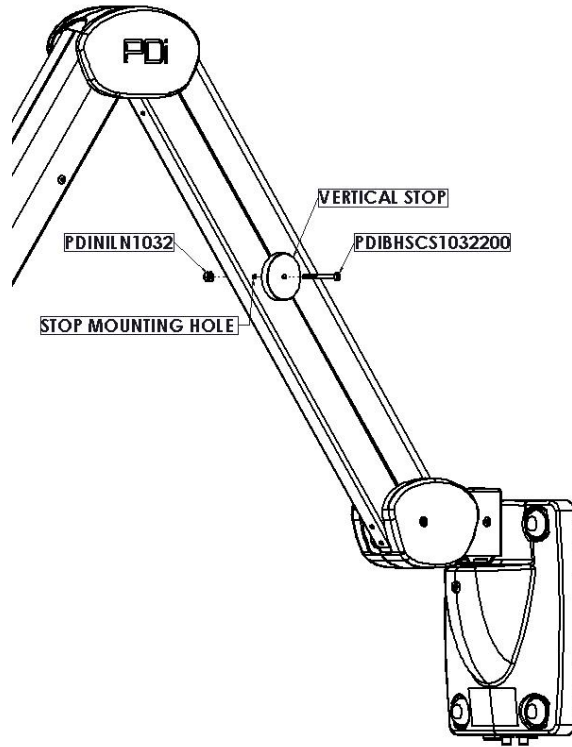

Figure 5: Vertical Stop Secured with **PDIBHSCS1032200** & **PDINILN1032**
- 4b. If screws are not present in the Stop Mounting Hole, attach the desired Vertical Stop with the 2.00" screw and Nylon Lock Nut into the Stop Mounting Hole and tighten to 30 IN-LBS. **Do not overtighten.** (See Figure 5)